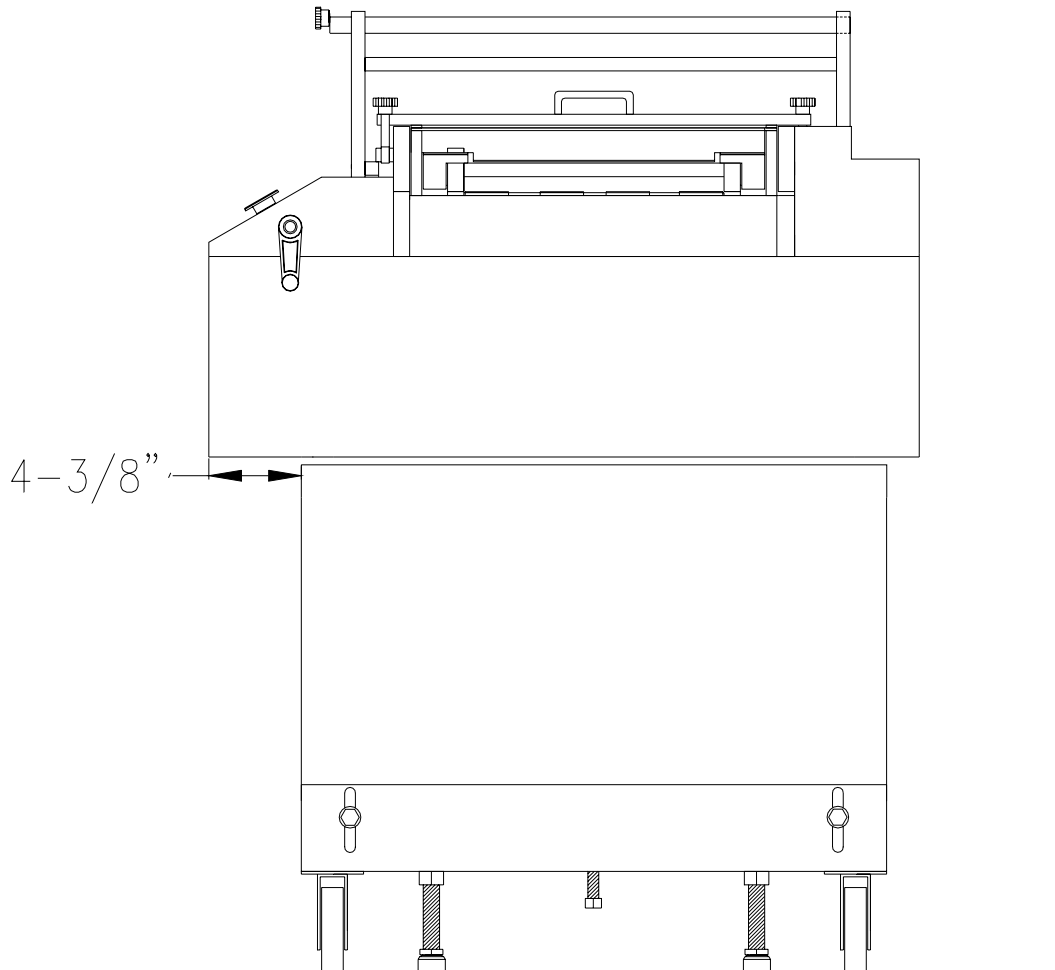

Figure 4
2. Position transport table to dimension given. (See Figure 4)